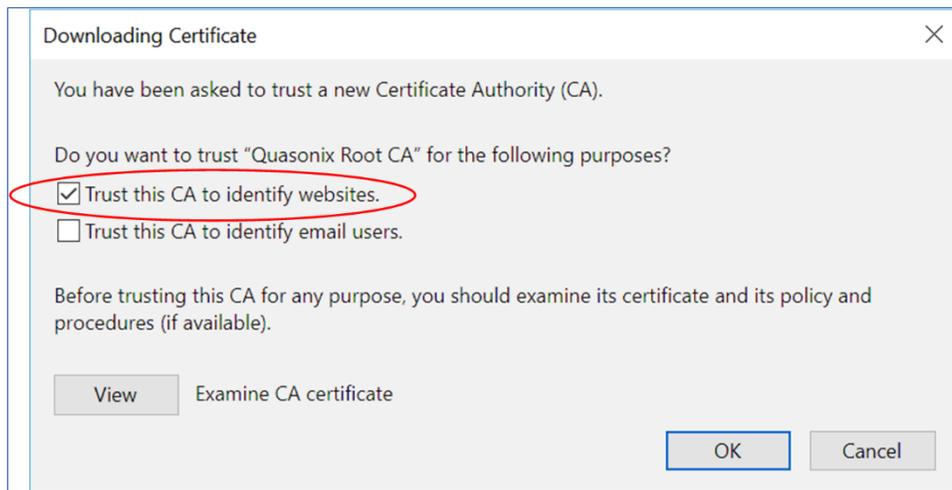

Figure 172: Firefox Downloading Certificate Window
7. The Downloading Certificate window displays, as shown in Figure 172.